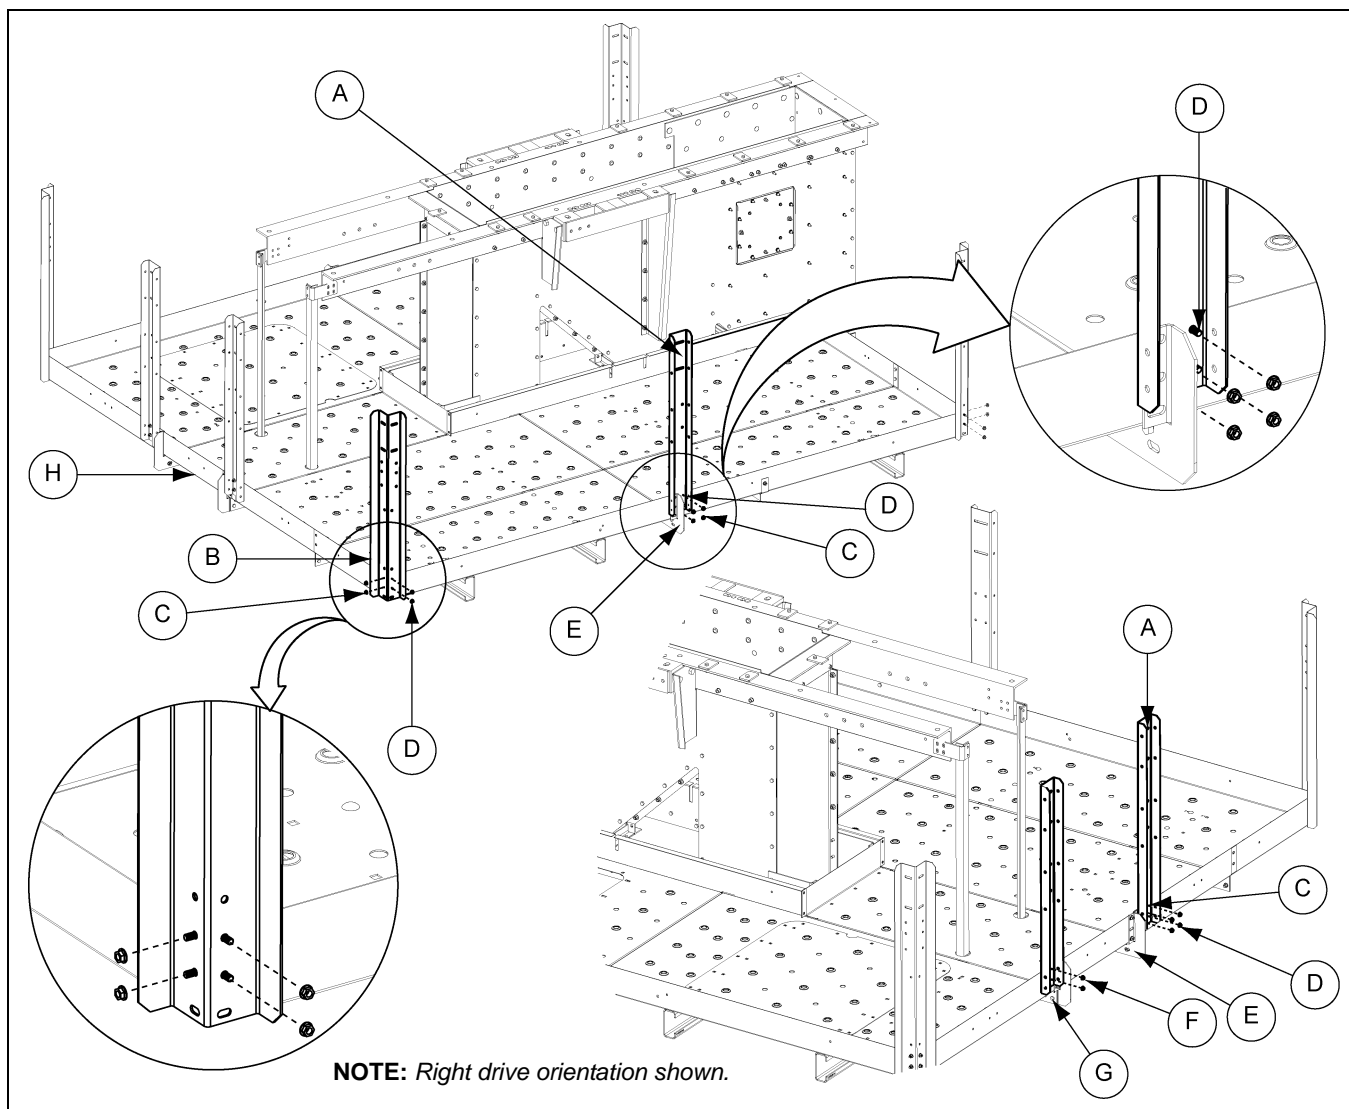

Figure 10D
1. Attach two (2) "W" posts (HP1648HWP) (B) to the corner of Deck F using 5/16" x 3/4" bolts (S-6606) (D) and nuts (S-3611) (C).
2. Attach platform post (HP1648HCP) (A) and HP handrail support (HP1648HSH) (E) to the middle of Deck F. Use 5/16" x 3/4" bolts (S-6606) (D) to attach post to deck. Use 5/16" x 3/4" bolts (S-6606) (D) to attach support bracket, post and deck together. (See Figure 10D.)
3. Attach platform posts (HP1648HCP) (A) to Deck A and Deck C as shown in Figure 10D. Use four (4) 5/16" x 3/4" bolts (S-6606) (D) and nuts (S-3611) (C) for each post.